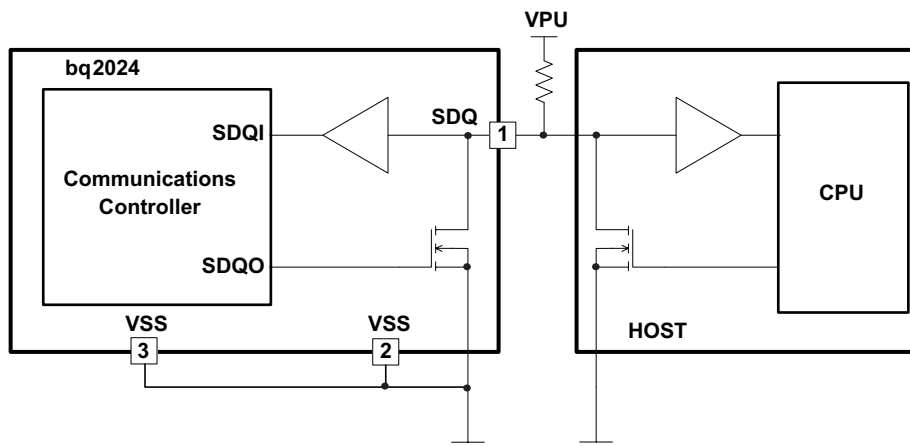

Figure 1. Typical Applications Circuit
(1) 5-k Ω series resistor between SDQ pin and V_{PU} . (See Figure 1)
(2) t_{WDH} must be less than t_c to account for recovery.
Because the drive output of the bq2024 is an open-drain, N-channel MOSFET, the host must provide a source current or a 5-kΩ external pullup, as shown in the typical application circuit in Figure 1.